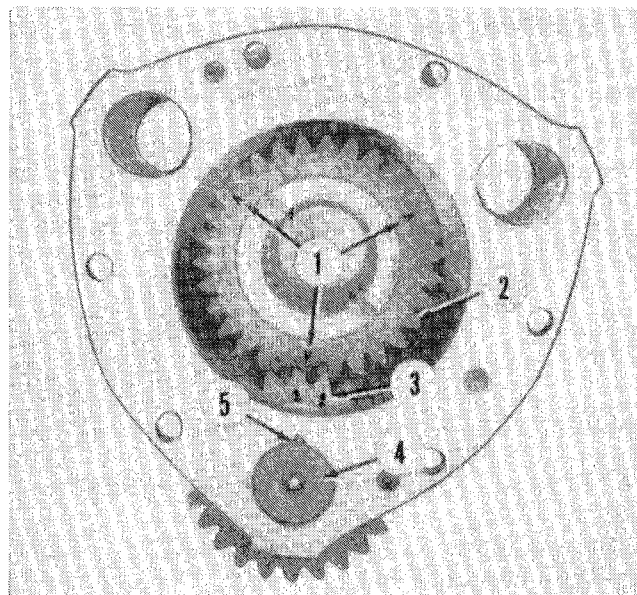
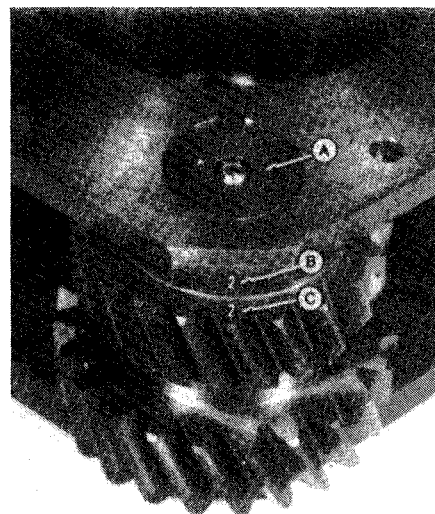

Fig. 116—On Models 4050, 4250 and 4650, be sure to align timing marks (3) on pinion gears with "V" marks (1) on sun gear.
Fig. 117—On Model 4450, align stamped number (1, 2 or 3) on carrier (B) with matching number on pinion gears (C).
Assemble bearing rollers (2—Fig. 112) and spacer (4) in pinion gears (3). Use a light coat of grease in pinions to hold bearings in place. Position low range sun gear (12) in carrier. Install pinion gears with thrust washers (1) into carrier. On Models 4050, 4250 and 4650, align marks on pinion gears (3—Fig. 116) with "V" marks (1) on sun gear. On Model 4450, align number (1, 2 or 3) stamped on carrier (B—Fig. 117) with matching number on pinion gear (C). On all